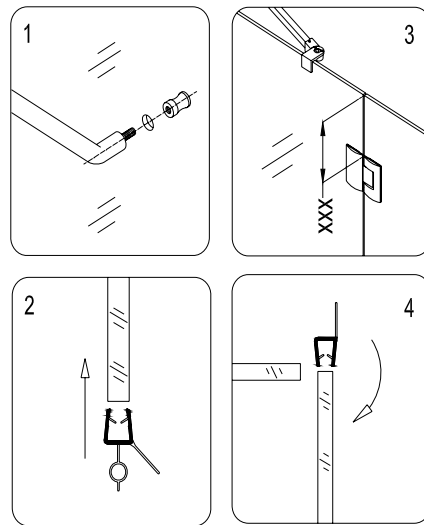

Fig. 6
5. Mount the **Handle (06)** onto the door. Measure the distance between the top edge of the glass door and upper edge of the top hinge. Cut the piece off the **Side strip (11)** with a knife in the length according to your measurement. Repeat it to prepare the short strip for the hinge at the lower section of the glass door. Then measure the distance between the bottom edge of the top hinge and the upper edge of the bottom hinge and cut the rest of the strip to size. Open the door to its full section and push all the strip lengths onto the vertical edge of the glass door. Push the **Bottom anti-water strip (12)** on the bottom edge of the glass door. See fig. 6 for details.